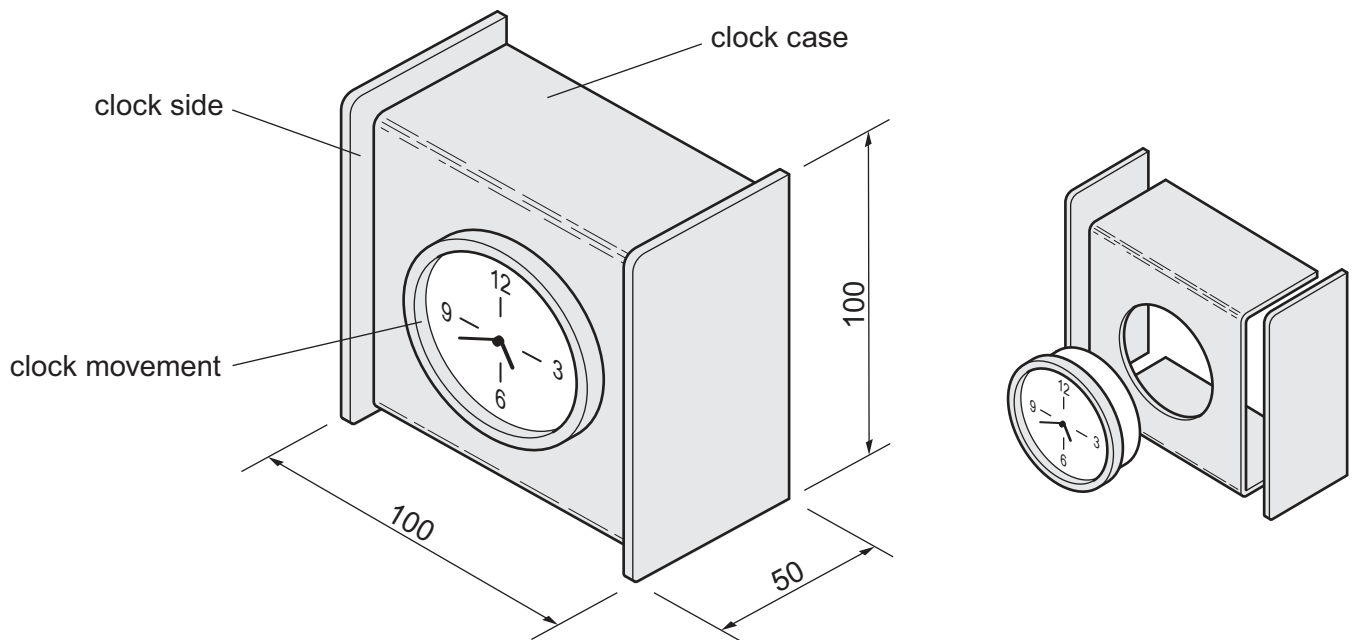

Figure 12.1
- 12 Figure 12.1 shows views of an incomplete design for a clock. The clock case and sides are made from 3 mm thick acrylic. The clock movement is purchased.